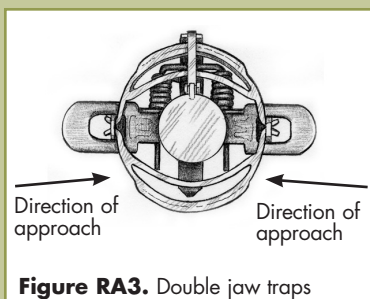

Figure RA3. Double jaw traps
- Double-jaw traps should be oriented when set so that an approaching animal will step between the jaws rather than over them (Figure RA3)